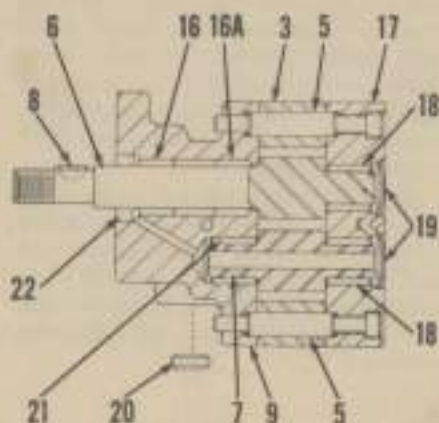

Fig. 18 — Cross-sectional view of Webster power steering pump showing bearing and seal location. Refer to Fig. 16 and Fig. 17 for exploded views.
For method of removal and installation of pump shaft bearings, refer to Fig. 18. Bearings (18) in cover may be driven out towards rear after removing the expansion plugs (19). Driven shaft bearing (21) in pump body must be pulled from blind hole. The drive shaft bearings (16 and 16A) can be driven out front end of body after removing seal (22). New bearings should be pressed into place. Press on lettered end of cage only as opposite end of cage is soft and is easily distorted. Press bearings into cover 0.020 below flush with surface towards gear plate. Press driven shaft bearing 0.020 below flush with sur-